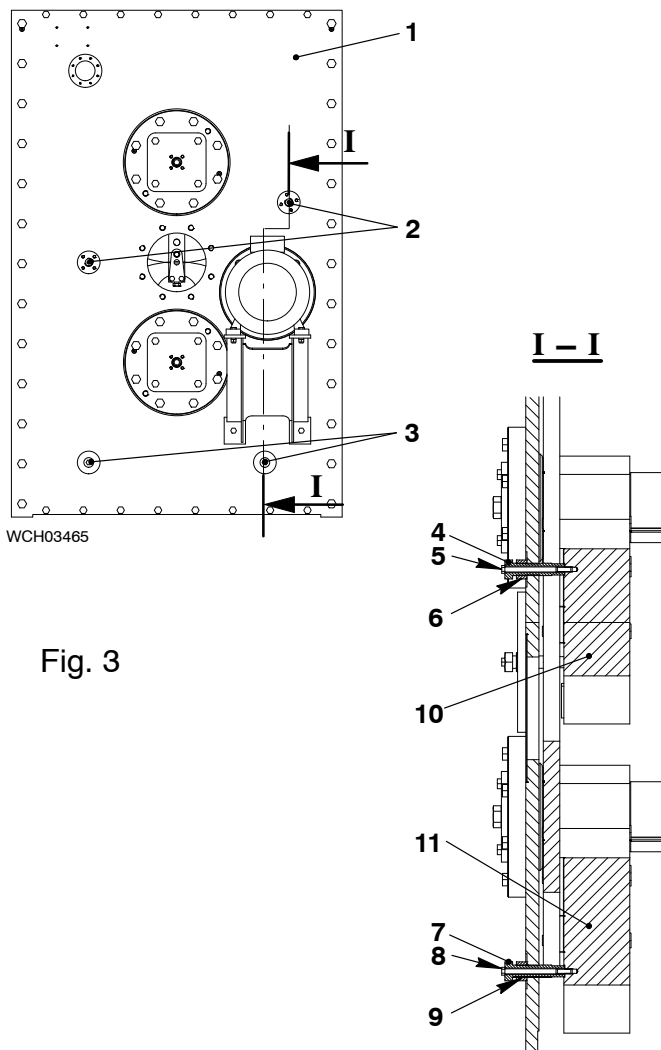

Fig. 3
- 1) Apply lubricating oil to the thread and bottom of the head of the screw (4, Fig. 3) and the nut (6).
- 2) Remove the two screws (2) from the main cover (1).
- 3) Put the two screws (4) and the nuts (6) in position on the top counterweight (10).
- 4) Torque the screws (4) to 60 Nm.
- 5) Torque the nut (6) to 60 Nm.
- 6) Put the the M12 bolt (5) in position through the screw (4).
- 7) Torque the M12 bolt (5) to 60 Nm.